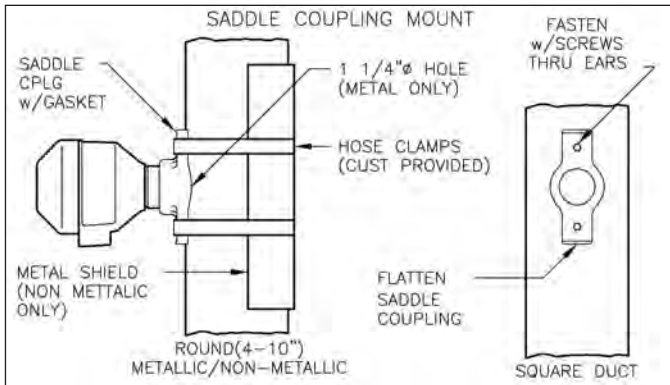

Figure 4
**Saddle Coupling** - (See Figure 4) In cases where the SFD-2 sensor is to be installed on small pipes/chutes, Monitor's saddle coupling can be used to overcome the difficulty of welding to the curvature of the material handling line. The aluminum saddle coupling is threaded to permit engagement of the 1 1/4" NPT connection on the SFD-2. Using the supplied gasket, acceptable mounting can be achieved for diameters ranging from 4" to 10". After selecting the appropriate location, cut a 1 1/2" diameter hole in the pipe/chute. Position/center the saddle coupling over the hole while placing the gasket in between. Fasten the saddle coupling to the pipe/chute using industrial grade hose clamps. Prior to sensor installation, prepare the mounting threads with Teflon® tape or pipe dope to insure sealing. Tighten the sensor into the saddle coupling insuring the conduit connection is facing downward. The saddle coupling can also be fastened to a pipe/chute with standard screw/nut fasteners by simply creating mounting holes in the saddle coupling's "ears" and fastening to the pipe/chute. It is also feasible to flatten the profile of the saddle coupling (via belt sander, mill, etc.) and use it as a standard half coupling.